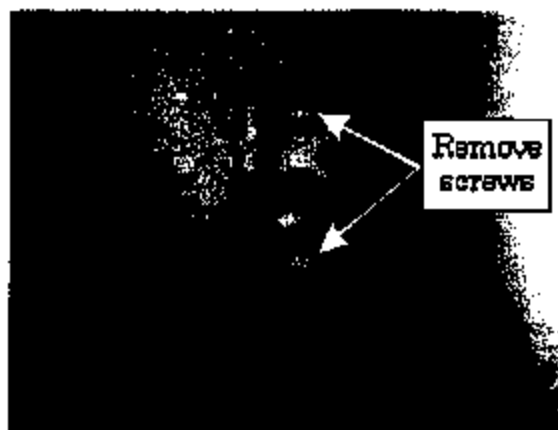

Figure 1: Remove sunvisor assembly.
2. Remove both driver and passenger sun visor, disconnect harness connector for vanity mirror light (if equipped), sun visor holder, and assist grip (figure 1, 2, 3).